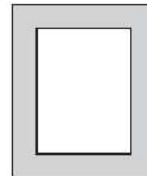

fig.1
1. First start with the mat, and the correct window opening required for your artwork - see fig. 1.